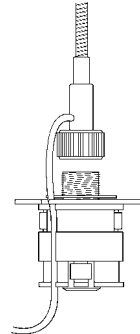

Fig. 1
**$\frac{5}{16}$ "-27 Mount:** Drill a  $1\frac{3}{8}$ " hole at the desired point in the mounting surface. Screw the base of the microphone onto the threads of the mounting stud. Drop the microphone cable down through the hole in the mounting surface, making certain the cable is captured by the slot in the mounting flange and is in place in the cable channel along the side of the shock mount (Fig. 1).